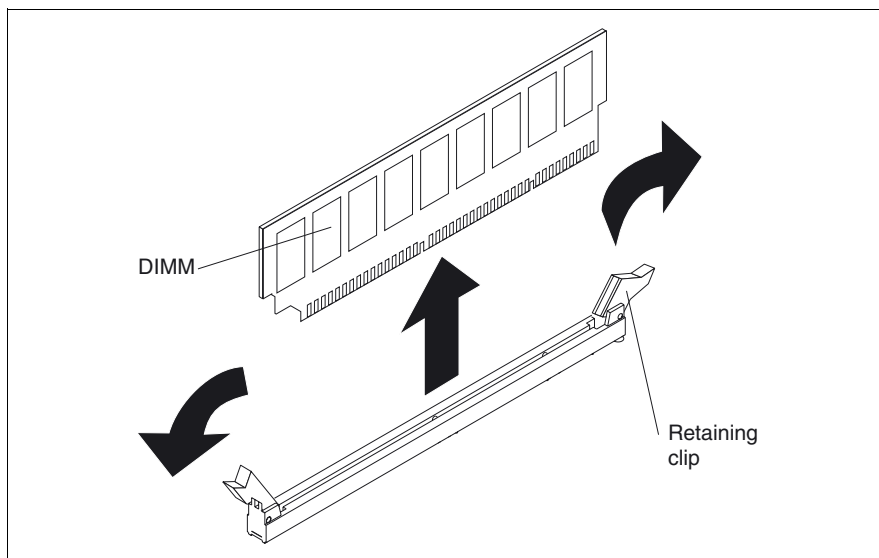

Figure 10: Removing a DIMM
- ▶ Open the retaining clips on each end of the DIMM connector (see figure 10).